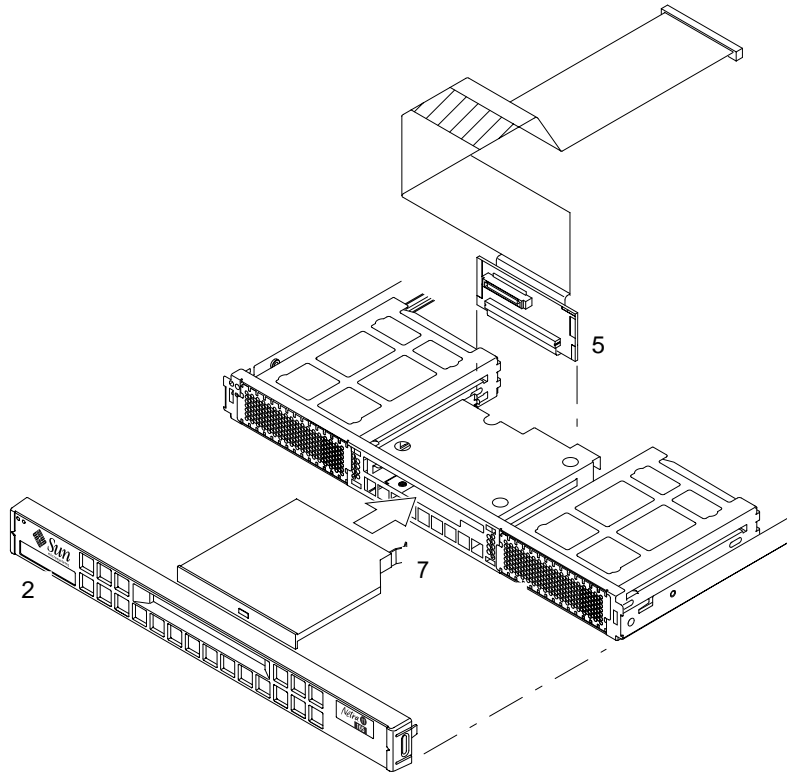

FIGURE 4-6 Installing an Internal CD-ROM Drive
2. **Remove the front bezel by pressing the latch at each end (see FIGURE 4-6).**
5. **Slide the connector card into the slot behind the CD-ROM drive bay (see FIGURE 4-6).**
6. **Connect the cable to the slot under the PCI card (see FIGURE 4-6).**
7. **Slide the CD-ROM drive into its bay until the catch clicks (see FIGURE 4-6).**